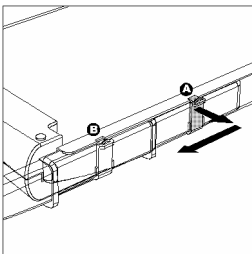

Fig. 1
- 2 The guillotine arm is locked at the bottom edge of the cutting unit. To unlock the guillotine arm, pull the locking latch out a little (Fig. 1, A) and slide it towards the front to Position B (Fig. 1).